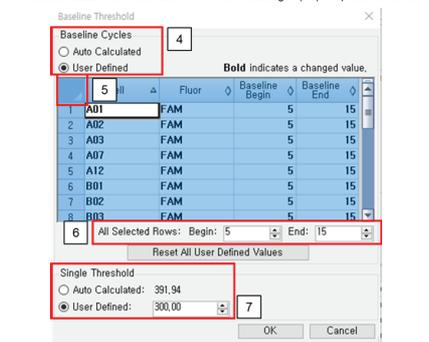

Figure 4. CFX Manager™ Software v3.1 Baseline Threshold Window
- 3 Select "User Defined" (#4) (Figure 4) in "Baseline Cycles" menu.